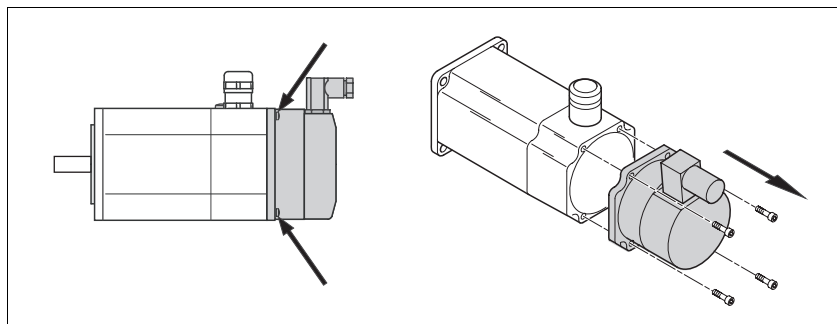

Figure 4.2 Opening the terminal box
- The terminal box does not have to be opened for connection of the motor by means of a connector. For connection in the terminal box, only unscrew the four screws of the terminal box. See Figure 4.2.